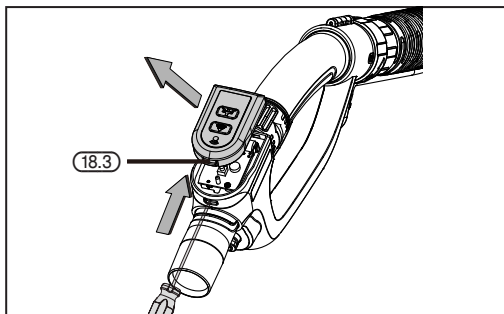

FIG. 25
1. To fit or replace the battery, push the release latch (18.3) using a cross slot screwdriver (FIG. 25).